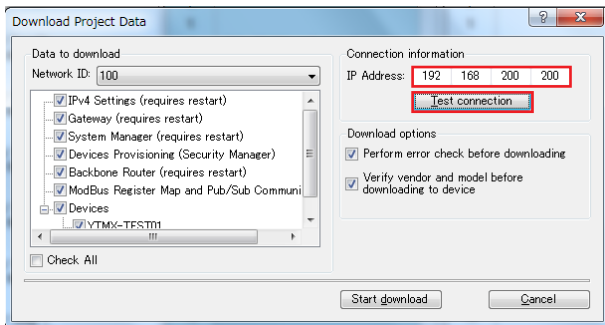

Figure 24
- ① On the Field Wireless Configurator, click Download on the Tools menu to open a dialog box shown in figure 24.
- ② Check that the IP Address is set to 192.168.200.200. Then click Test connection to check that the message "Connection succeed!" appears.